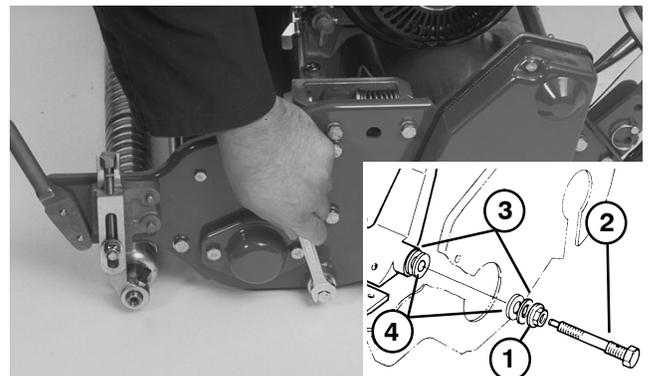

Figure 27
4. Loosen flange nuts on both sides of the mower. Remove both bedbar bolts on each side of the mower with the metal and nylon washers. Discard nylon washer (Fig. 27).